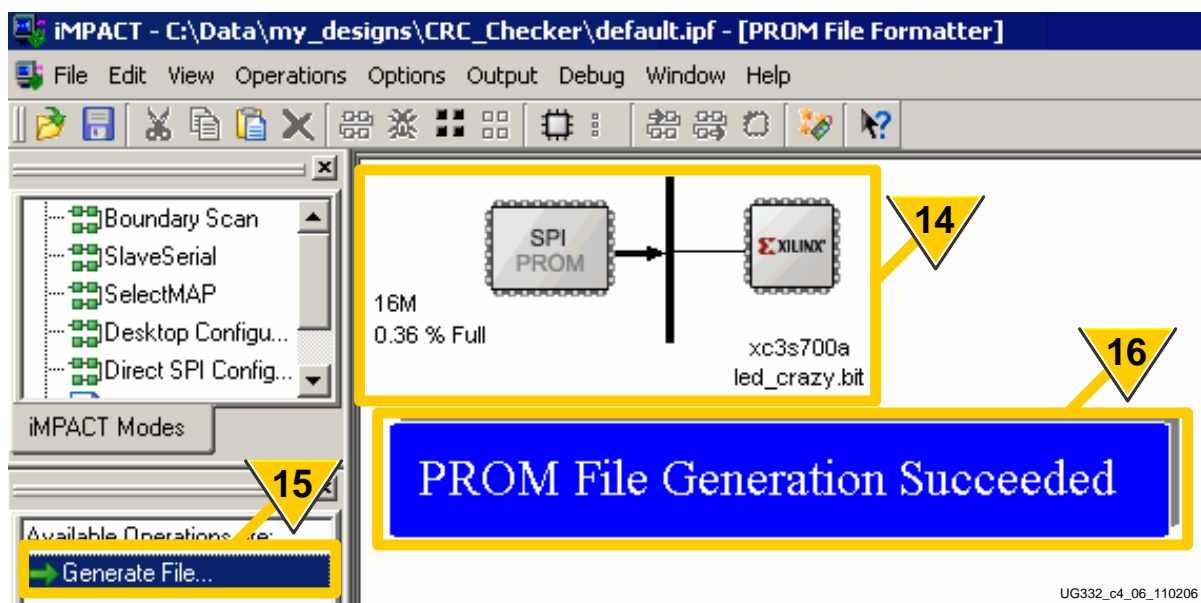

Figure 4-15: Generate PROM File
14. As shown in Figure 4-15, the iMPACT software graphically displays the SPI PROM and associated FPGA bitstream(s).